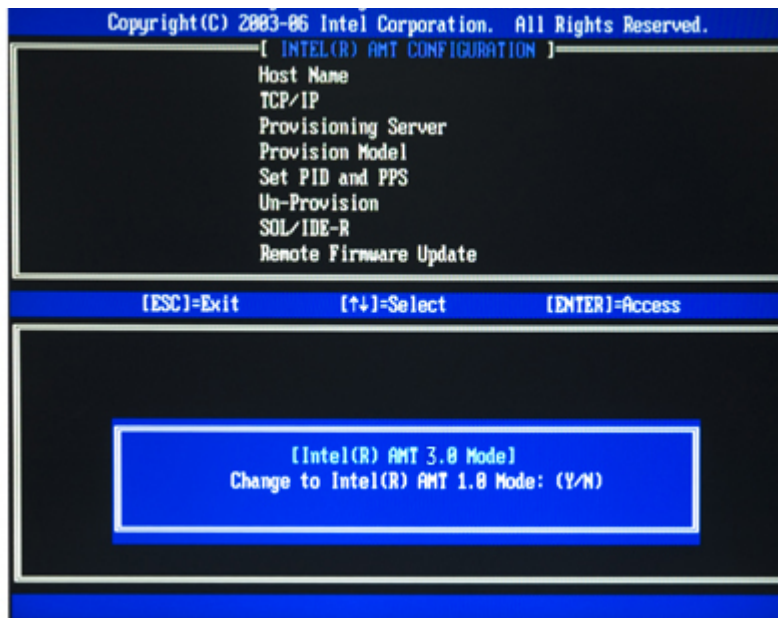

Figure 8-7: Intel® AMT 3.0 Mode
Step 7: When the screen in **Figure 8-7** prompts, enter N and press Enter.